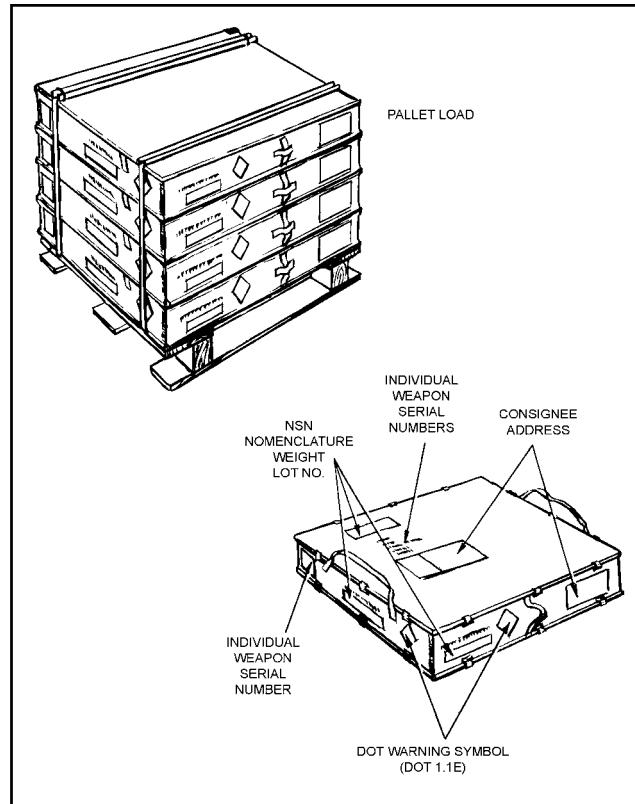

Figure 3-4. Ammunition packaging and markings.
b. **Packaging**. Five M136 AT4s, each wrapped in a plastic barrier bag, are packed together in a wooden container. The containers are too heavy to stack more than four deep on the pallets (Figure 3-4).